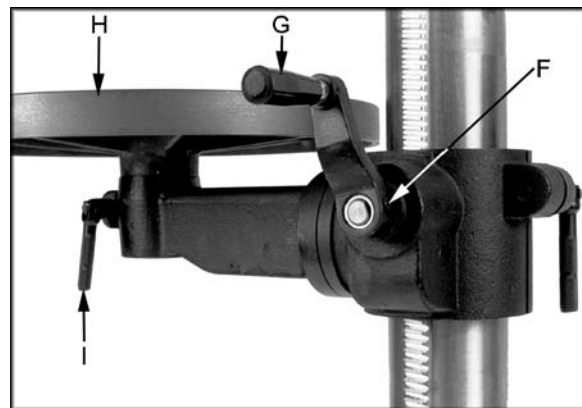

Figure 3
4. Loosen the set screw (F, Figure 3) on the raising handle (G, Figure 3) with a 3mm hex wrench.
7. Insert the table (H, Figure 3) into the table bracket.
8. Tighten the table lock handle (I, Figure 3).